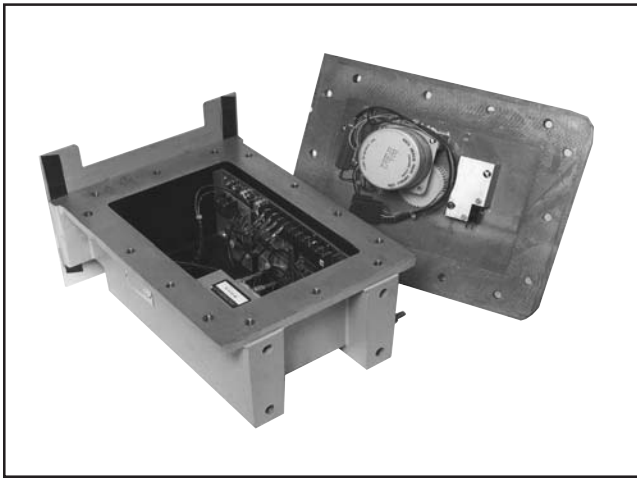

Figure 7 — Stepper Motor Removal Removal
2. Remove the four slot head screws retaining the resistors (Figure 7).
3. Remove the three slot head screws retaining the stepper motor (Figure 7).
4. Remove the pin and gear from the stepper motor shaft (Figure 7).